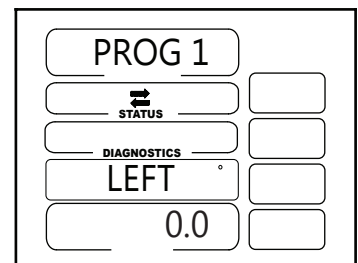

Figure 17-4
6. PROG 1 will change according to the programmed sector being added or modified. See figure 17-4.
- If the current sector program is not programmed and there are no other existing programs then the left angle will be 0.0 as displayed in figure 17-4.